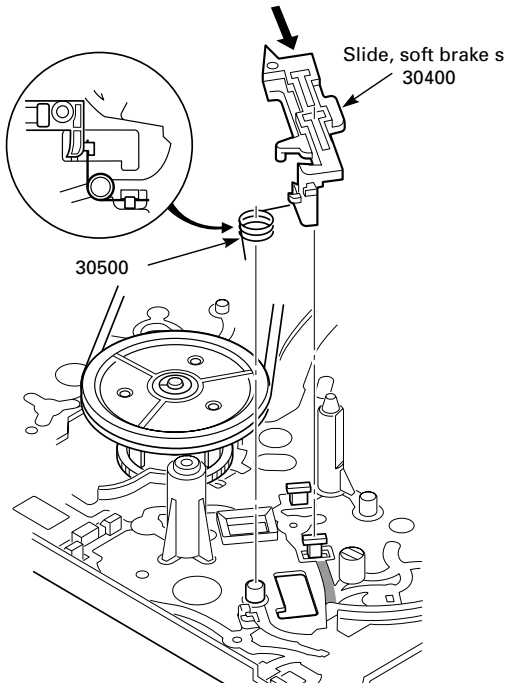

Fig. 8.16
- Unhook the spring (30500), move the slide of the soft brake (30400) in the direction of the arrow to remove it (Fig. 8.16).